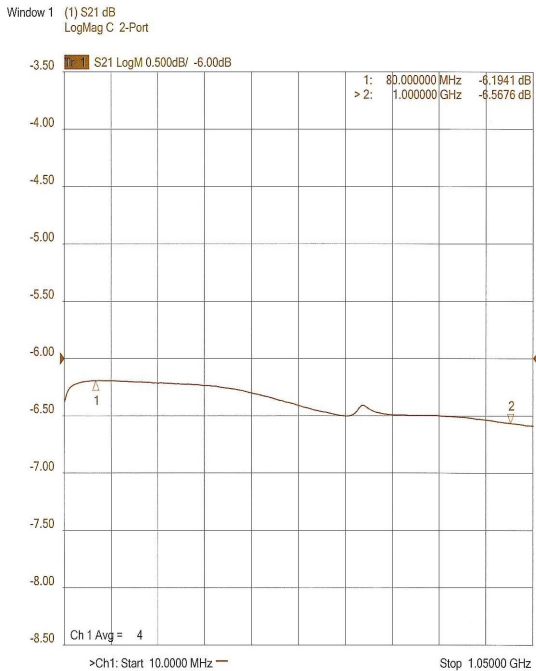

Figure 4-5. Typical 4-Way Combiner Insertion Loss
- A typical 2-Way Combiner Insertion Loss and Combined Port Return Loss is shown in Figures 4-5 and 4-6. The unused ports must be terminated when checking the Insertion Loss.